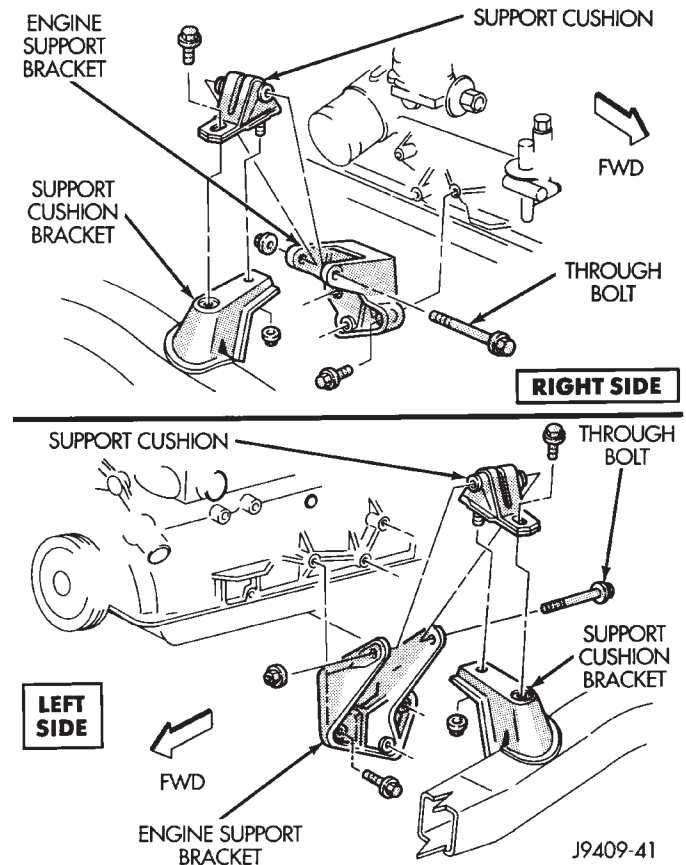

Fig. 9 Front Mounts—YJ Vehicles
- (3) Support the engine.
- (4) Remove through bolt nut (Fig. 9). DO NOT remove the through bolt.
- (5) Remove the retaining bolts and nuts from the support cushions (Fig. 9).
- (6) Remove the through bolt.
- (7) Remove the engine support cushions.
(1) If the engine support bracket was removed, position the bracket onto the block and install the attaching bolts (Fig. 9). Tighten the bolts to 62 N·m (46 ft. lbs.) torque.
(2) Place the support cushion on the support cushion bracket (Fig. 9). Install the support cushion retaining bolts and nuts. Tighten the bolts and nuts to 52 N·m (38 ft. lbs.) torque.
(3) Install the through bolt and the retaining nut (Fig. 9). Tighten the through bolt nut to 69 N·m (51 ft. lbs.) torque.
(4) Remove the engine support.
(5) Lower the vehicle.
(6) Connect negative cable to battery.